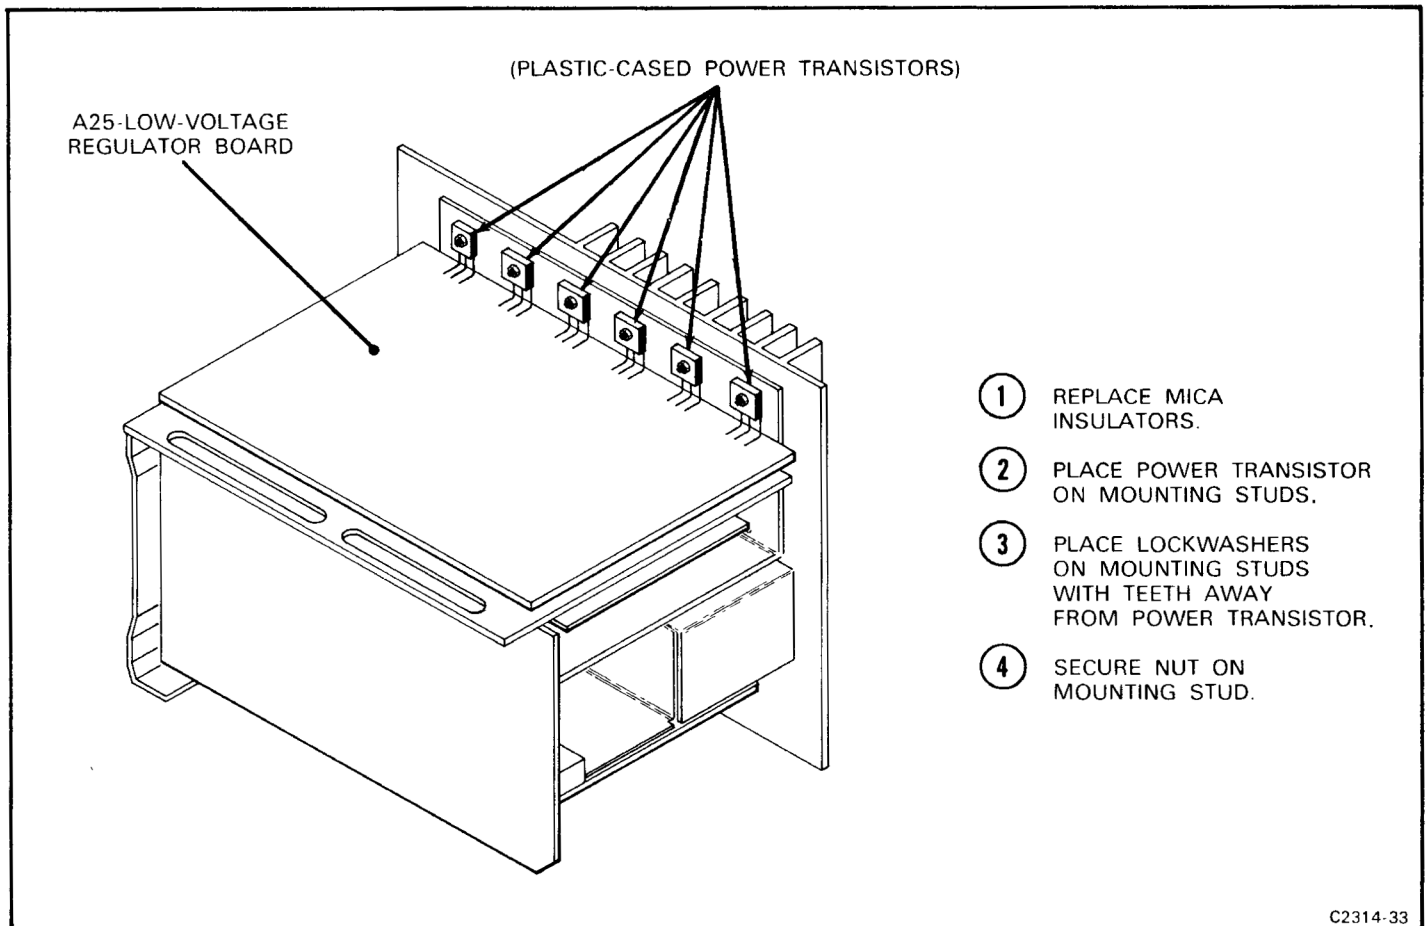

Figure 4-13. Correct placement of power transistor and mounting hardware on rear heatsink.
5. Remove the mounting hardware securing the plastic-cased power transistors to the rear heatsink (see Fig. 4-13). Note the position of the lockwashers so they can be correctly replaced.